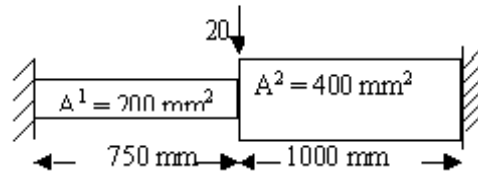

Figure 6
6. Calculate the deflection at the center of the fixed beam as shown in the figure6.